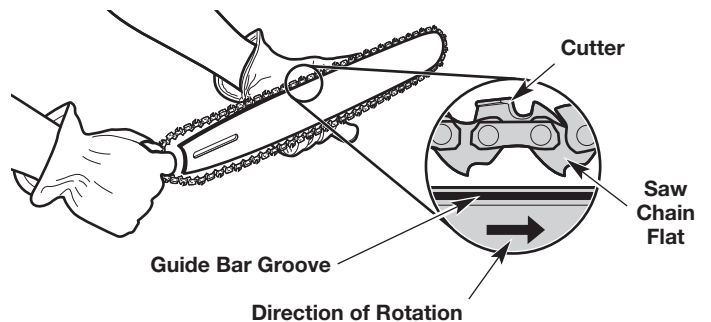
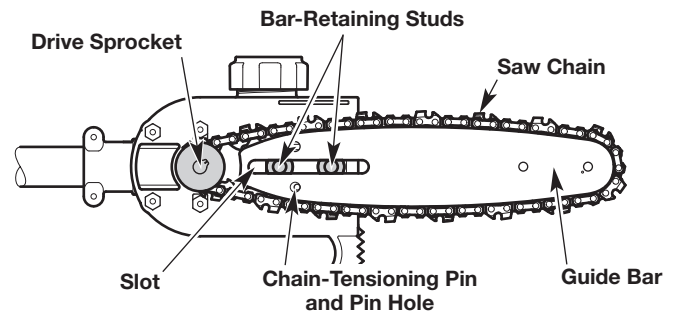

Fig. 14
Fig. 15
3. Fit the saw chain into the guide bar groove (Fig. 14). Make sure the cutters point in the correct direction of rotation (Fig. 14). Keep a loop of saw chain at the back end of the guide bar (Fig. 14).
4. Hold the saw chain and guide bar together in position over the unit. Loop the saw chain around the drive sprocket and install the guide bar onto the bar-retaining studs (Fig. 15). Make sure the guide bar is flush against the mounting surface. Make sure the flats on the saw chain are in the grooves on the drive sprocket (Fig. 14 & Fig. 15). Make sure the chain-tensioning pin is in the pin hole on the guide bar (Fig. 15).
6. Install the bar cover. Tighten the screw and two (2) bar-retaining nuts.